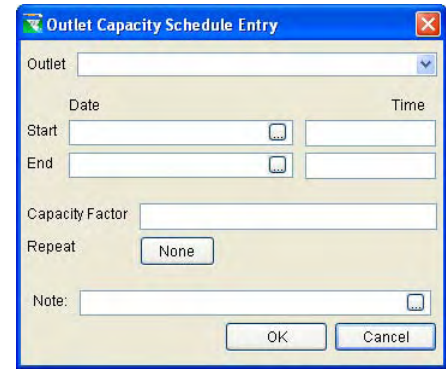
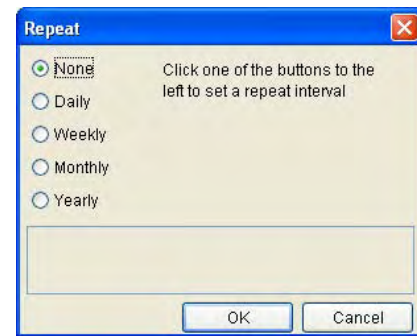

Figure 11.102 Outlet Capacity Schedule Entry Editor
Figure 11.103 Outlet Capacity Repeat Editor for Outage Schedule
- Add Click on the **Add** button to open the **Outlet Capacity Schedule Entry** editor (Figure 11.102). From the **Outlet** list select the appropriate outlet that is scheduled for an outage. Enter the **Starting Date & Time** and the **Ending Date & Time** to indicate when the outage is scheduled to occur. Enter a **Capacity Factor** that represents the fractional portion of the outlet's capacity that is available for release. For example, if 75% of the outlet's capacity will be available during the outage, then enter a Capacity Factor of 0.75. The label on the Repeat button ("None" in Figure 11.102) reflects the frequency with which the outage is applied. Click on this button to open the **Repeat** editor (Figure 11.103). Enter an optional descriptive **Note** to describe the details of the outage.